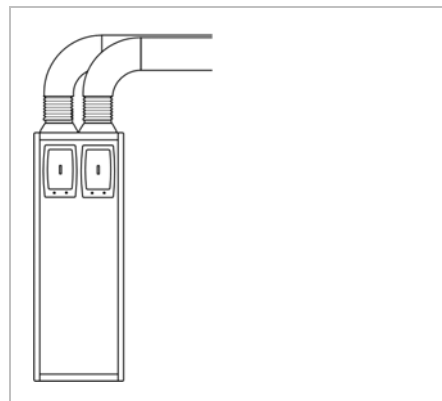

Figure 21: Attaching Ducting
1. Always use a short piece of flexible duct (100 mm long and 125 mm diameter), extended to its full length when connecting to ductwork (see *Figure 21*).